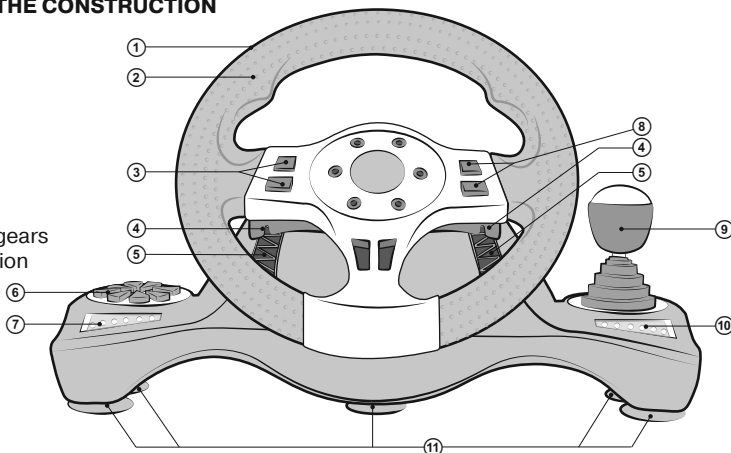

Fig. 1. Front view
- Game racing wheel is equipped with paddle shifters ④, that substitute acceleration and brake pedals: the left paddle shifter functions as a brake pedal, while the right paddle shifter functions as an acceleration pedal.
Note. Game racing wheel is equipped with braking indication ⑦ and accelerating indication ⑩ see. Fig. 1. With a smooth pressing the acceleration pedal indicator lights up green, picking up speed indicator will light orange, then red. Depending on the smoothness of dropping speed indicator lights green, orange and red colors.